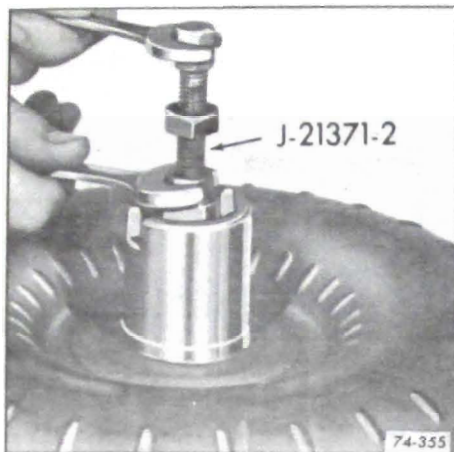

Figure 75-307
1. Install tool J-21371-2 and tighten brass nut. See Figure 75-307.